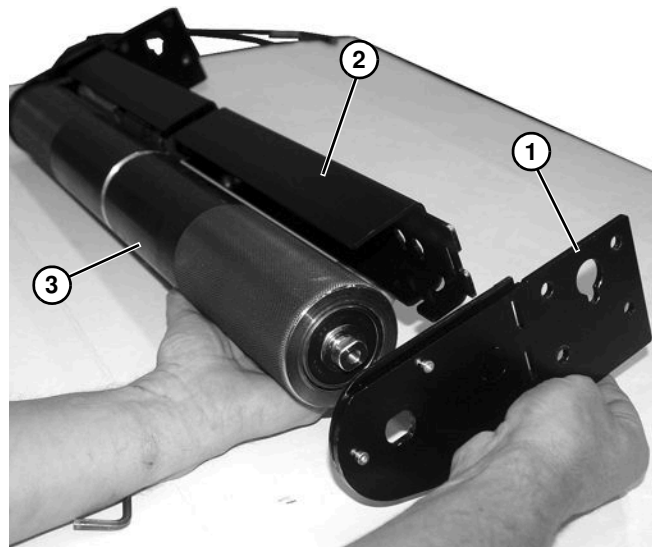

Figure 200
8. Remove cover plate (**Figure 200, item 1**) from crossmember (**Figure 200, item 2**) and spindle (**Figure 200, item 3**) on spindle assembly.